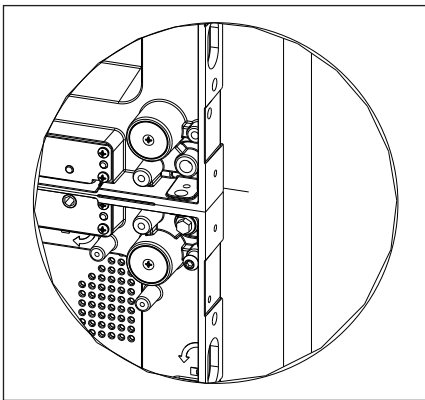

Figure 8: Align Panel Faces
- 3. Ensure the front edges of the panels align completely. Refer to **Figure 8**.